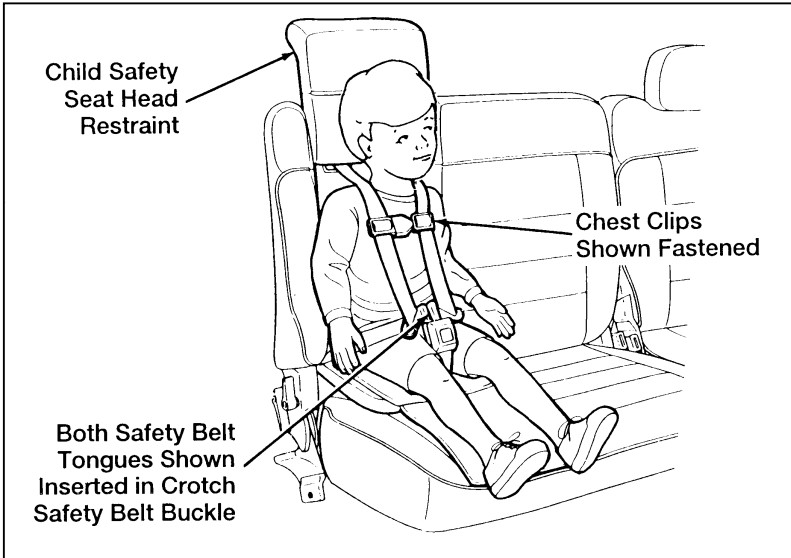

Figure 13: Checking for properly fastened chest clip and safety belts
11. If the child is sleeping or tries to get out of the child seat, pull shoulder belts fully out to put the retractor into the lock mode. At this time, the shoulder belts are in an automatic lock mode. Allow belts to tighten snugly against the child's shoulders. The belt will automatically lock and cannot be pulled out. Refer to Figure 13.